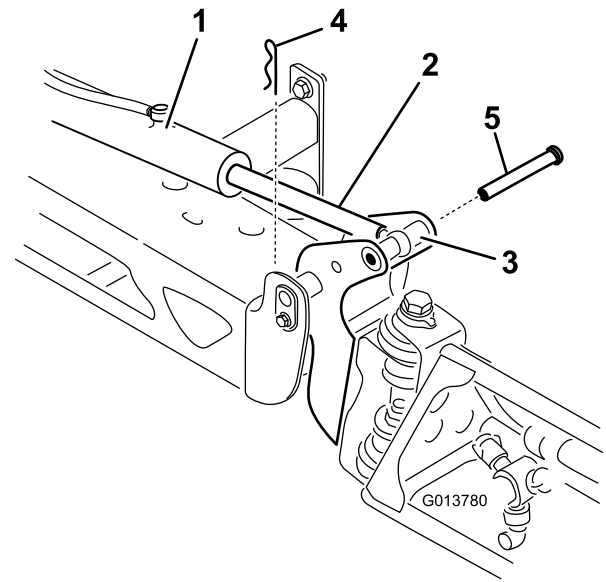

**Figure 70**
2. Pump grease into the bearing or bushing at each fitting (Figure 70).